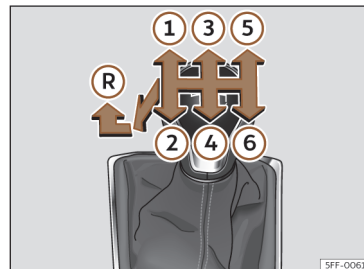

Fig. 122 Diagram of a 6-speed manual gearbox.
>>> **Fig. 122.**
- With the gear lever in neutral, push it down, move it all the way to the left and then forwards to select reverse gear >>> **Fig. 122 (R)**.